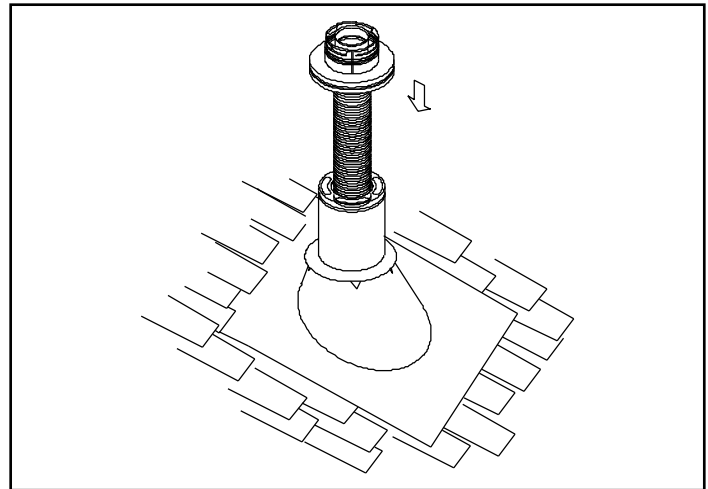
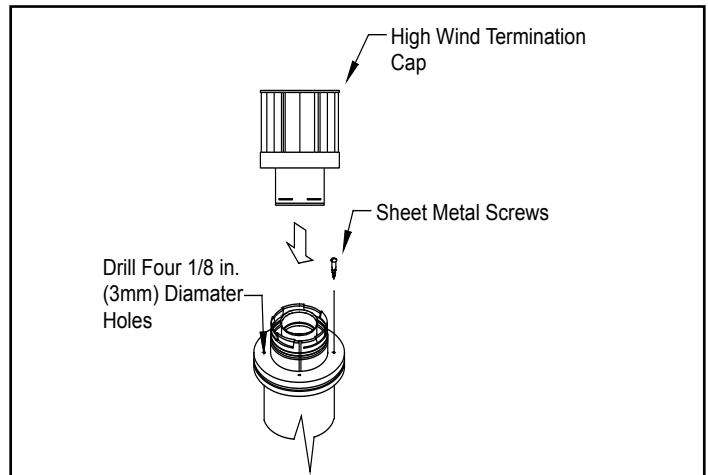

Figure 4.20
Figure 4.21
4. Pass the flex pipe down through the center of the chimney system, and center the top adaptor on the top of the chimney pipe. Drill four 1/8 in. (3mm) diameter holes through the top adaptor, and into the chimney top. Ensure that you are drilling into the metal on the chimney. Twist lock the high wind termination cap onto the top adaptor. See Figure 4.20 and Figure 4.21.